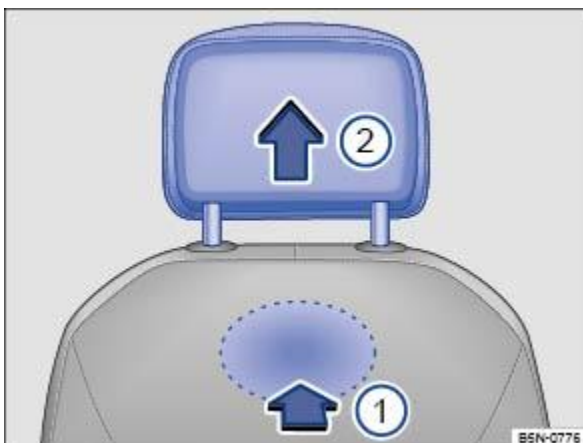

Fig. 74 Front head restraint: removing.
To release the head restraint, feel for the recess in the marked area on the rear side and press it in the direction of the arrow ⇒ Fig. 74 ① .
Pull the head restraint out in the direction of the arrow ⇒ Fig. 74 ② .